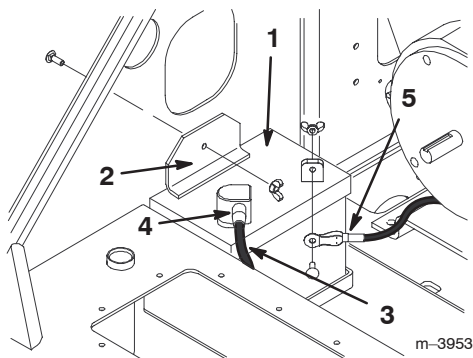

Figure 23
3. Remove the wing nut and bolt securing the battery clamp and strip (under the clamp) and remove the clamp and strip (Fig. 23).
8. Install the battery into the chassis (Fig. 23).
9. Secure the battery in the chassis (Fig. 23).
10. Using the bolt and wing nut supplied with the battery, connect the positive (red) cable to the positive (+) battery post (Fig. 23). Slide the rubber cover over the battery post.
11. Using the bolt and wing nut supplied with the battery, connect the negative (black) cable to the negative (-) battery post (Fig. 23).